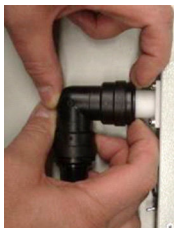

Fig. 88: Suction pipe
5. Disconnect the suction pipe from the system (Fig. 88).